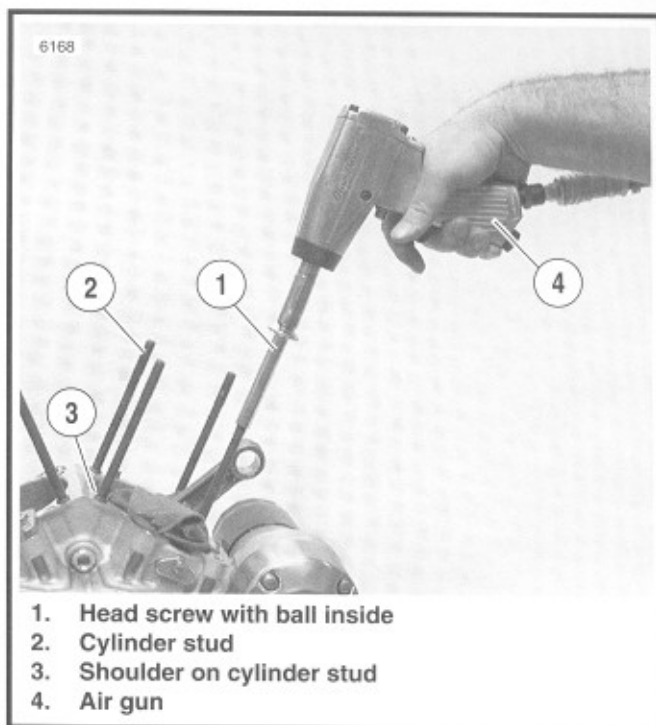

Figure 3-103. Cylinder Studs
14. See Figure 3-103. Install cylinder studs.
- Place a steel ball into a head screw (1).
- The cylinder studs (2) have a shoulder (3) at the lower end. Place the end of the stud without the shoulder into the head screw.
- Install the stud in the crankcase with the shoulder end down. Use an air gun (4) to drive the stud until the shoulder reaches the crankcase.